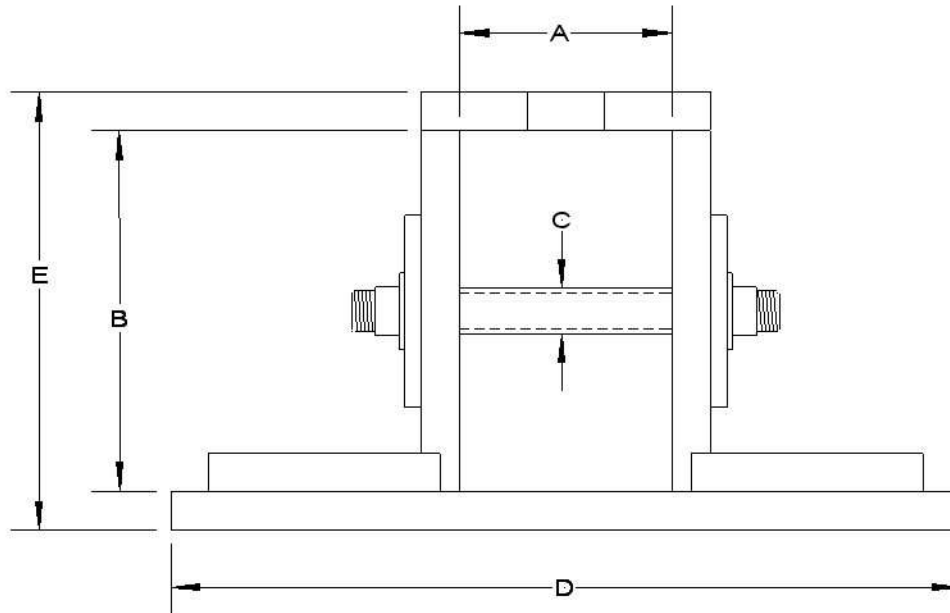

figure 1
A mechanical outline of the fixture and a typical injection probe mounted in the fixture is shown in Figure 1. This fixture is useable over the frequency range of 10 kHz to 400 MHz.
**Assume that the frequency of interest is 80 KHz and we need to find the current at this frequency. Connect the probe per figure 1**